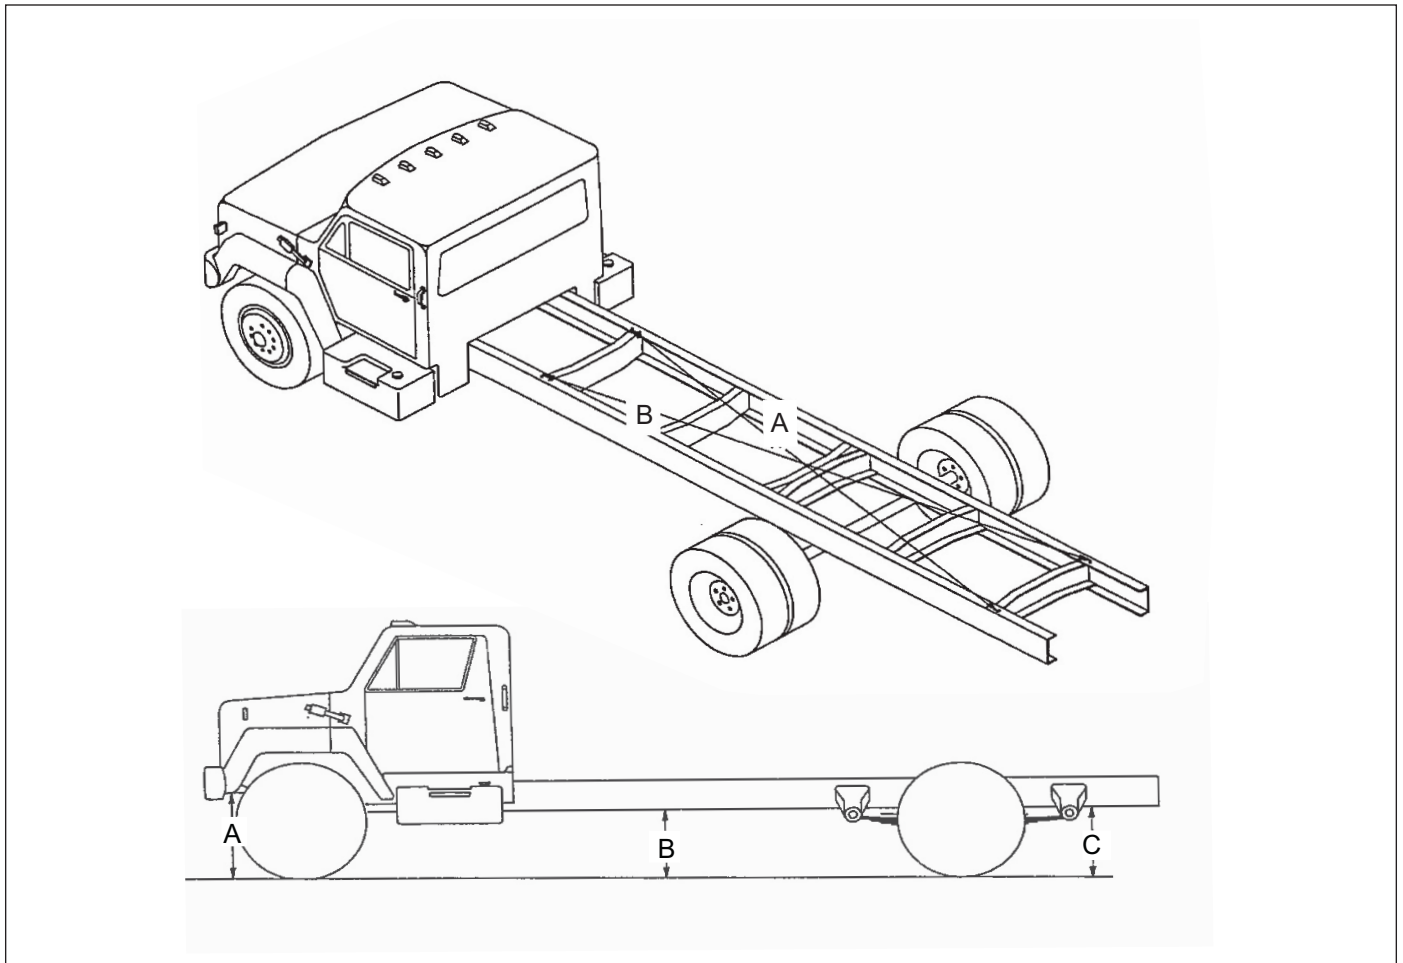

Figure 3-1: Chasis Inspection
- b. Check the frame for being square. Measure diagonally from the front of one side to the of the other side. Locate measurements off of cross member rivets. **See Figure 3-1.** Record both diagonal measurements below. Both measurements must be within 1/4" of each other.
- c. Check the frame height (ride height). Measure the distance between the frame and the ground on each side of the chassis at 3 check points; (A) just in front of the front axle, (B) 12 inches behind the cab, and (C) just behind the mounting bracket of the rear axle springs. The measurement of both frames at the same check point must be within 1/4" of each other. **See Figure 3-1.** If any of the above frame checks fail, have the chassis checked and corrected by a qualified chassis technician before proceeding.